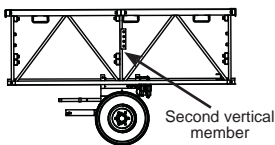
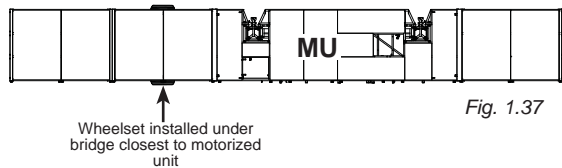

Fig. 1.36
Fig. 1.37
- 2- Install the optional wheel set under the second vertical member of the bridge in the cantilever structure closest to the motorized unit (fig. 1.36 and fig. 1.37). For more information about the installation and use of a wheel set, refer to p. 81 of the *Accessories* section.